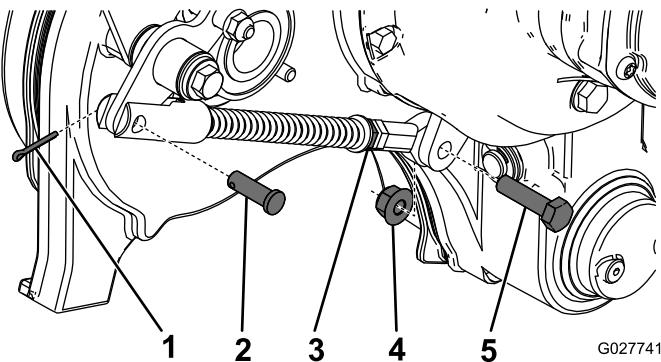

Figure 47
3. Remove the cotter pin, clevis pin, nut, and bolt securing the bell-crank link assembly to the machine (Figure 47).
5. Tighten the jam nut and install the bell-crank link assembly using the previously removed hardware (Figure 47).